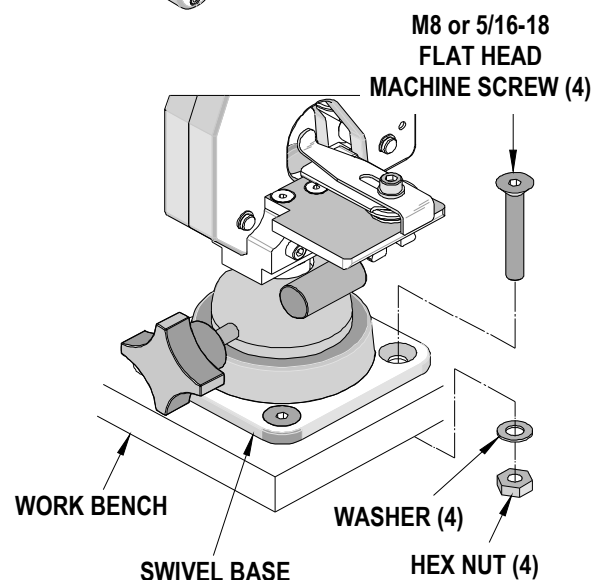

Figure 2-2
3. Before attempting to crimp any terminals, be sure the Swivel Base is securely fastened to a clean, sturdy work bench or table in a well-lighted area. Fasten the base with four M8 or 5/16-18 flat head machine screws, nuts and washers of sufficient length for the table top. (Not supplied). See Figure 2-2.